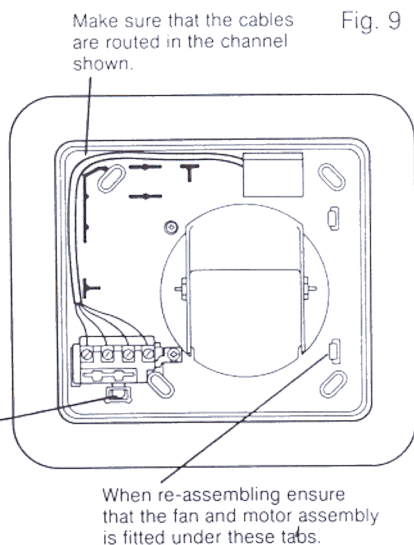

Fig. 9
6.6 When the grout has set, make the electrical connections to the terminal block after releasing it from the backplate. (See Section 4 and Fig. 9).